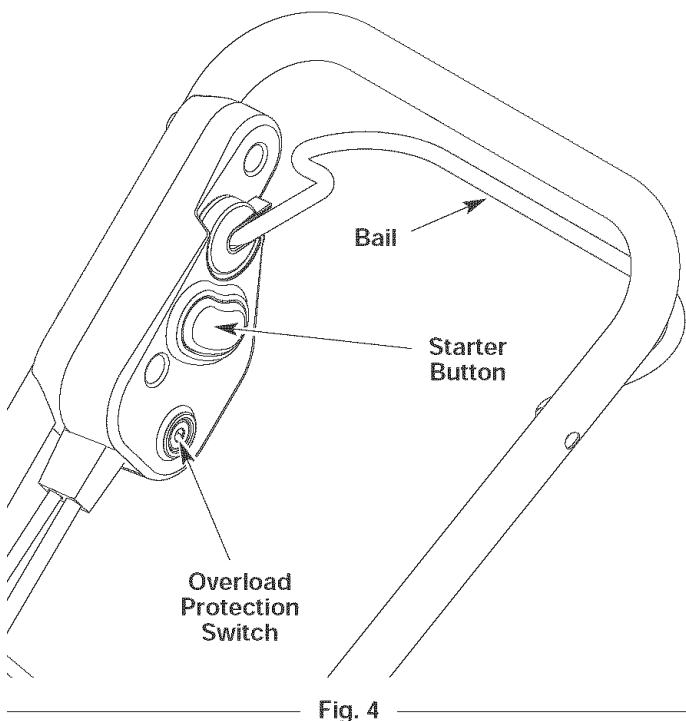

Fig. 4
2. Press in and hold the red starter button (Fig. 4).
2. Press the overload switch to reset. Resume operation (Fig. 4).